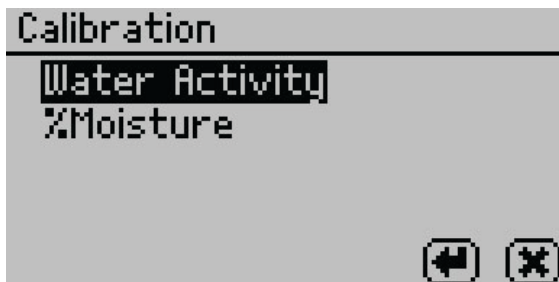

Figure 37 Calibration option
- **Calibration.** Select to start the calibration process (Section 4.1) for water activity or moisture content (Figure 37). Resetting factory defaults is described in Section 4.1.4.